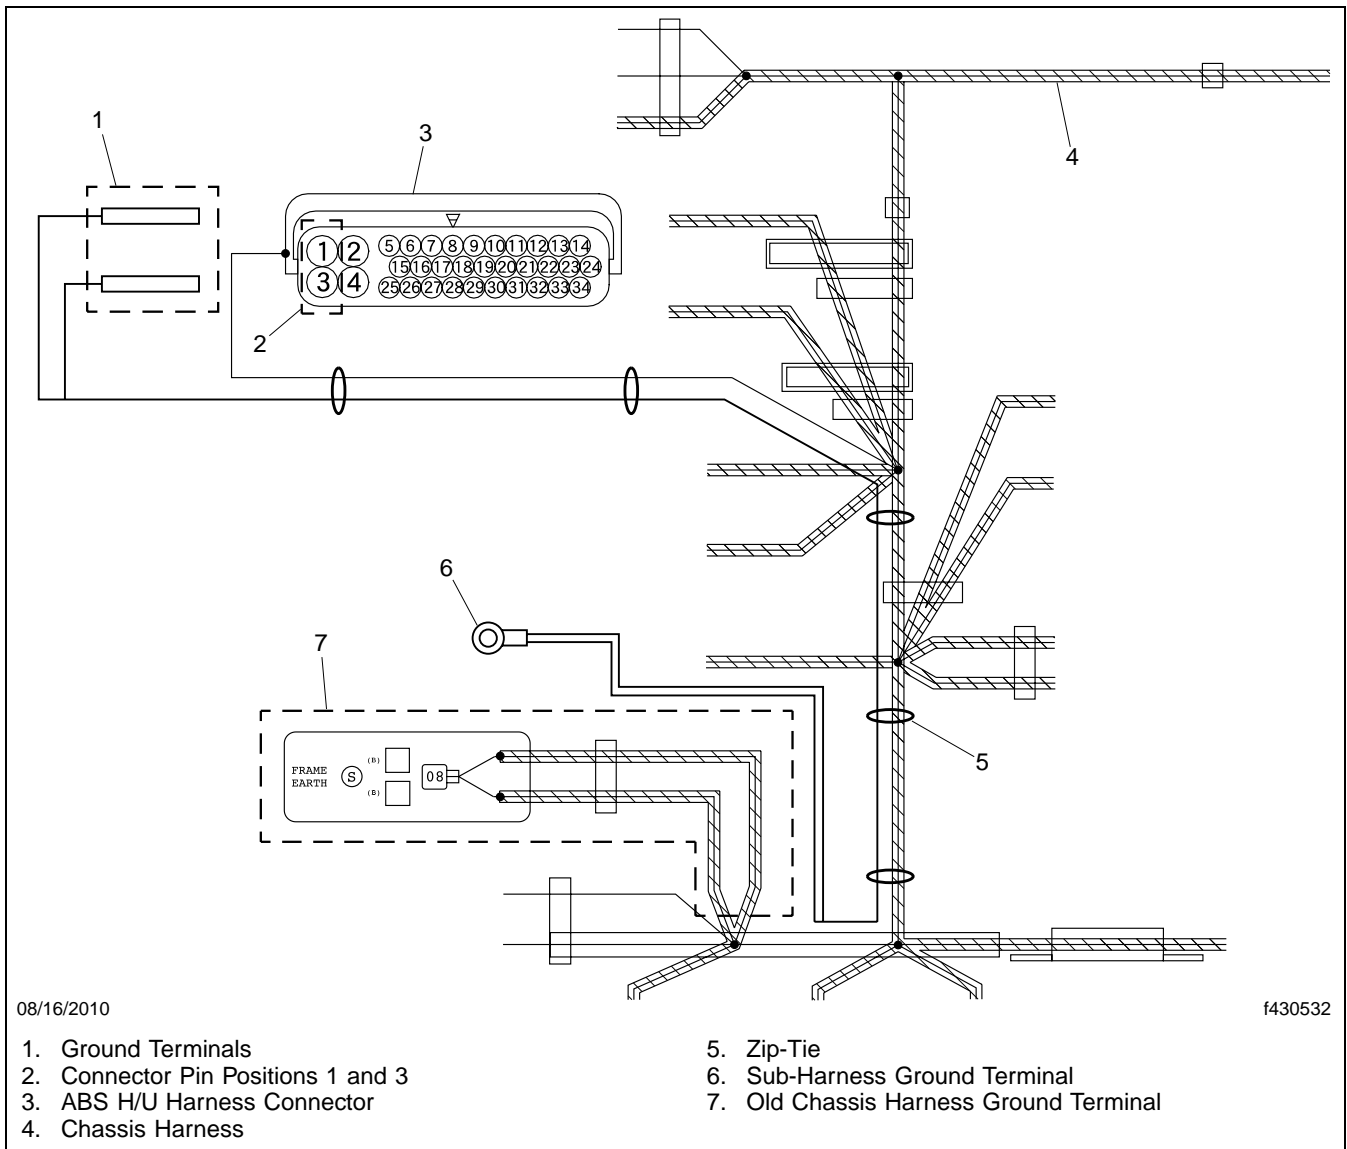

Fig. 8, Sub-Harness Installation
1. Disconnect the two ground wires (black) from the ABS H/U connector pin positions 1 and 3. See **Fig. 8**.